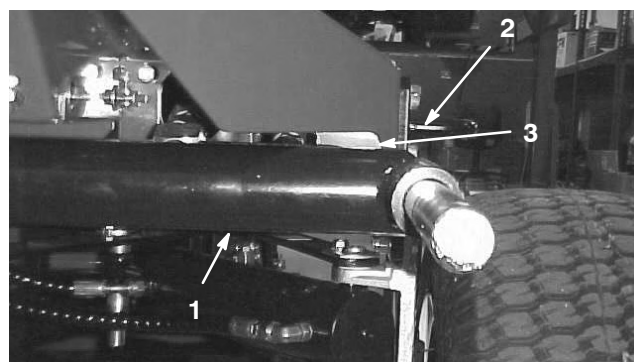
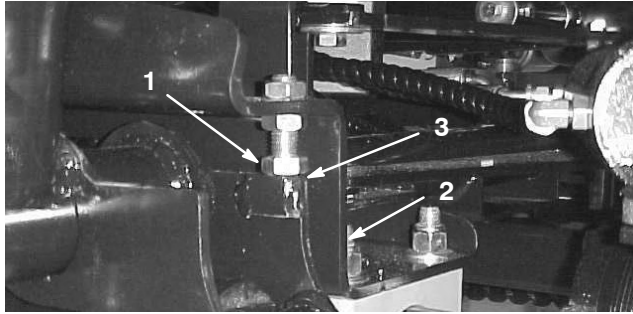
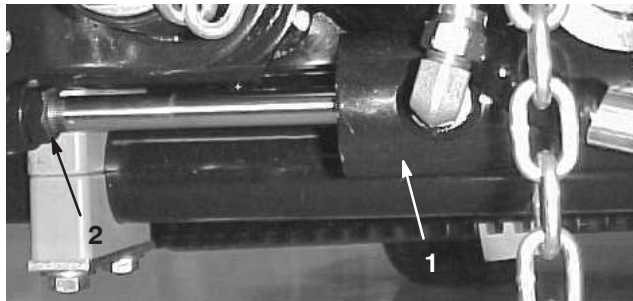

Figure 5
Figure 6
Figure 7
1. Start the engine, raise the decks, and check to make sure that the clearance between each lift arm and the floor plate bracket is .18-.32 in. (5-8 mm) (Fig. 5). If the clearance is not in this range, back off the stop bolts (Fig. 6) and adjust the cylinder to attain clearance. To adjust the cylinder, back off the jam nut on the cylinder (Fig. 7), remove the pin from the rod end, and rotate the clevis. Install the pin and check the clearance. Repeat the procedure if required. Tighten the clevis jam nut.
2. Check to make sure that the clearance between each lift arm and stop bolt is 0.005–0.040 in. (0.13–1.02 mm) (Fig. 6). If the clearance is not in this range, adjust the stop bolts to attain clearance.